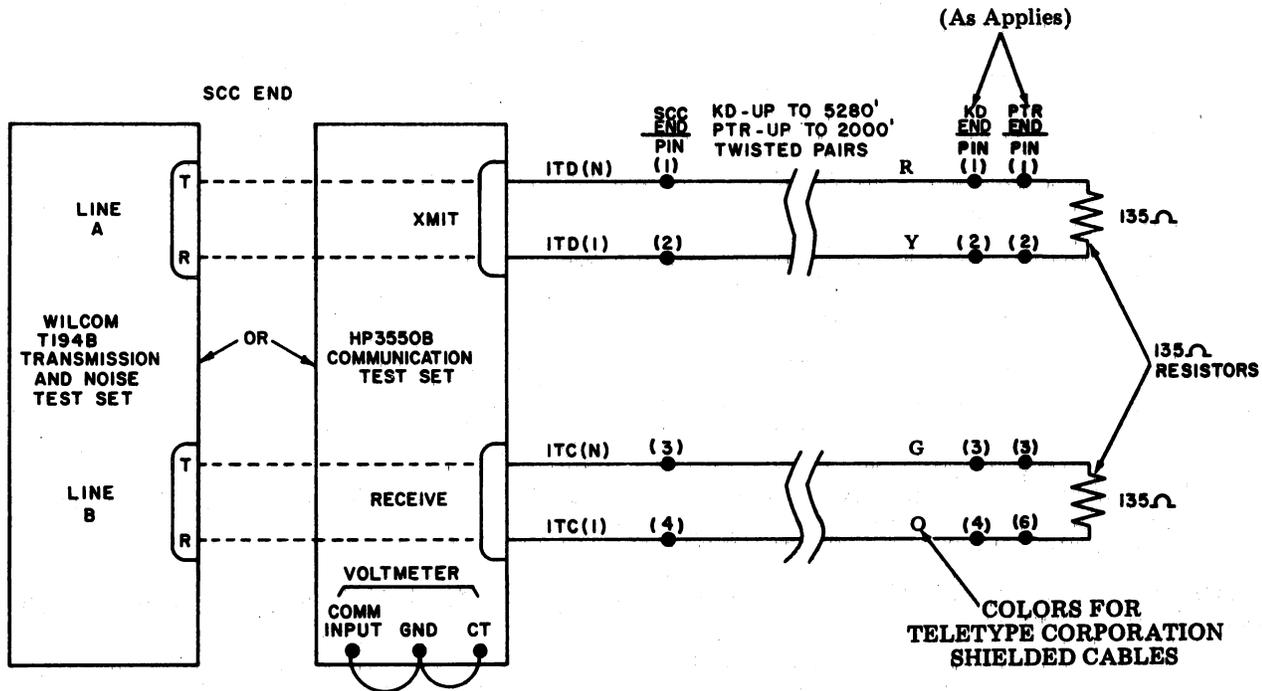

Fig. 17—Cross-Talk Measurements
3.23 The Cross-Talk Tests require either a WILCOM T194B Transmission and Noise Test Set or a HP-3550B Communication Test Set and two 135 ohm resistors. Connect the test set and resistors as shown in Fig. 17. If a WILCOM Test Set is used, perform the initial set up of 3.24 first. Perform the tests in Table D.